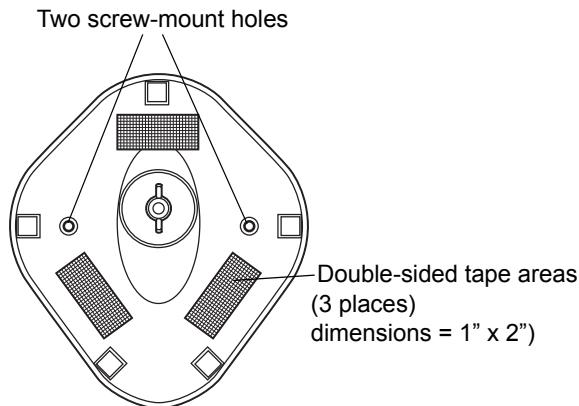

Figure 2-3 Mounting the Stand
2. Screw one #10 wood screw into each screw-mount hole until the base of the stand is secure (see Figure 2-3).
2. Peel the paper liner off the exposed sides of each piece of tape and press the stand on a flat surface until it is secure (see Figure 2-3).